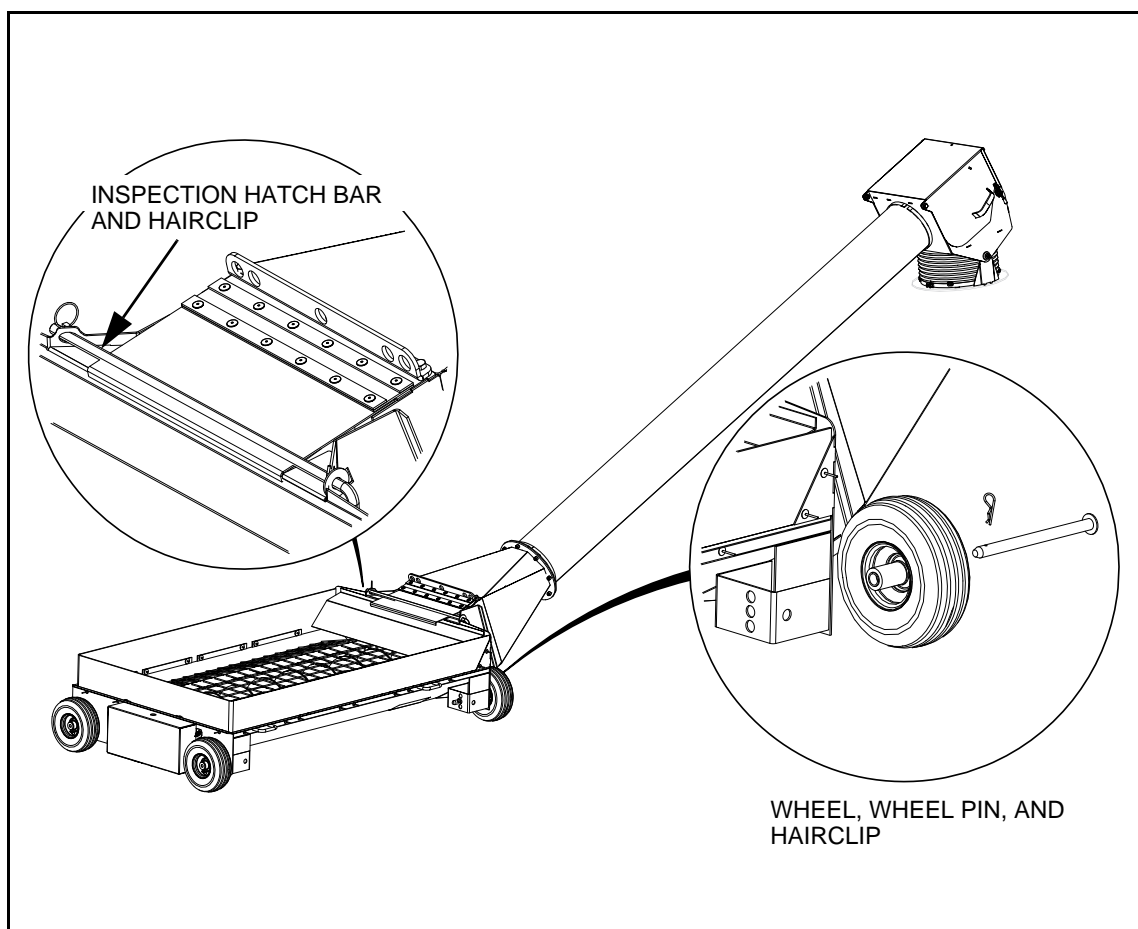

Figure 3.38 Connecting the Wheels, Inspection Hatch Bar, and Hopper Cable Attach Bracket
7. Attach the 4 solid wheels to the 4 hopper corners with the axle pins and hairpins. There are 3 height settings (Figure 3.38) that can be used according to preference.